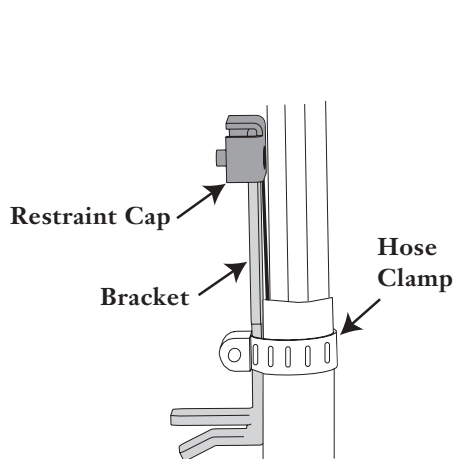

Figure 14 — Drop Cable Hardware
Step 1 Install strain-relief hardware onto the drop cable as described in Section 3.4 (Figure 14). The retention grip is not required on drop cables.